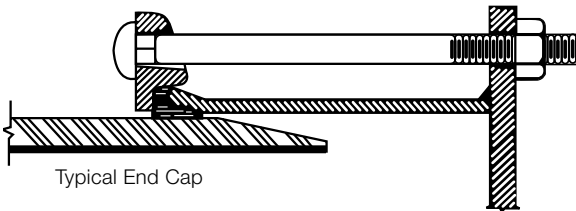

Figure 21
3. Test ends, which should be capped and braced to withstand the appreciable thrusts that are developed under test pressure, as seen in Figure 21. Refer to Section 3.9 on “Thrust Blocking and Anchorage at Fittings.”